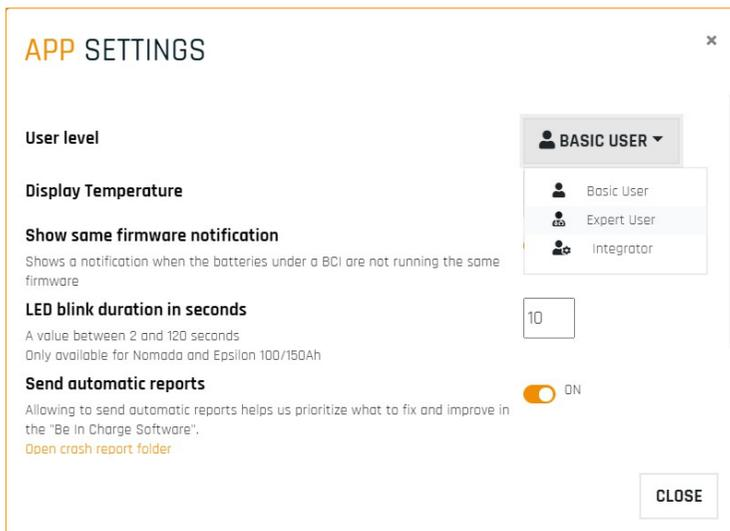
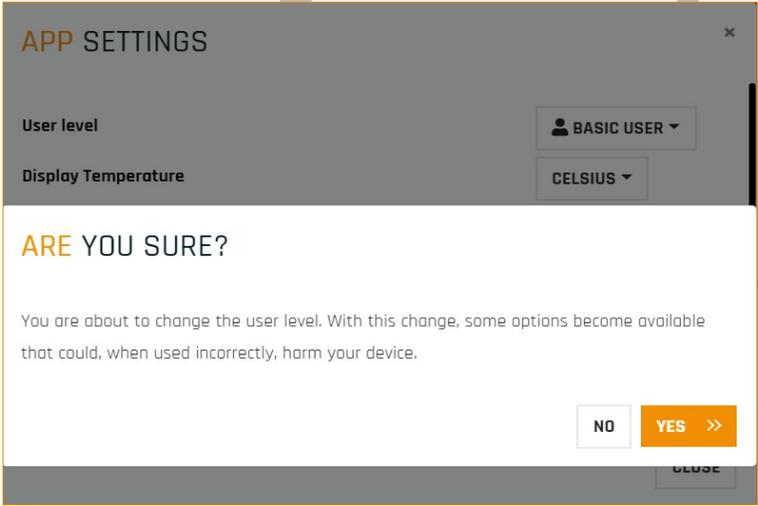

Figure 42. Set user level to 'Expert User'
Figure 43. Confirm expert user
1. To make changes to battery Node ID it is necessary to set the user level to 'Expert User' (Figure 42, Figure 43).